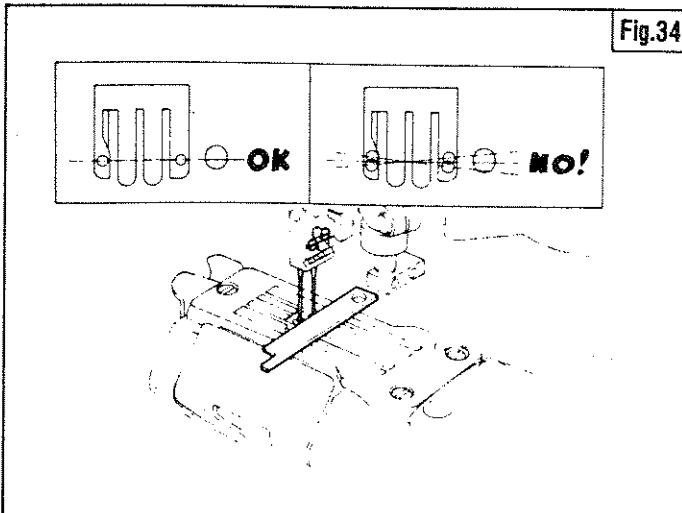

Fig.34
Install the first and fourth needles from the left in such a way that the straight line across the needles is at right angles with Needle Plate Slots as shown in Fig.34.
■ In the case of using Upper Knife as a gauge, place Upper Knife at right angles with Needle Plate Slots as shown in Fig.34.